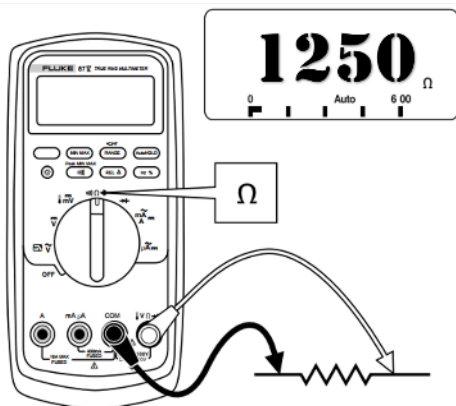

Figure 247. Use a Digital Multi-Meter to Measure Resistance.
STEP 33 | After installation/swap of a clean inlet, use a digital multi-meter (DMM) to measure the resistance of the heater element (cable), reading must be 1250 ± 15 ohms (**Figure 247**).